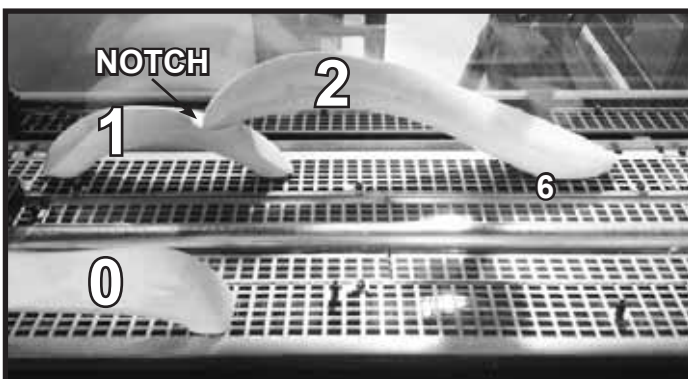

Figure 5. (SRV2310-752)
6. **(SRV2310-752):** Install Log #2 with the larger end of the log positioned on shoulder screw #6. The small end rests on the notch of Log #1. See Figure 5.